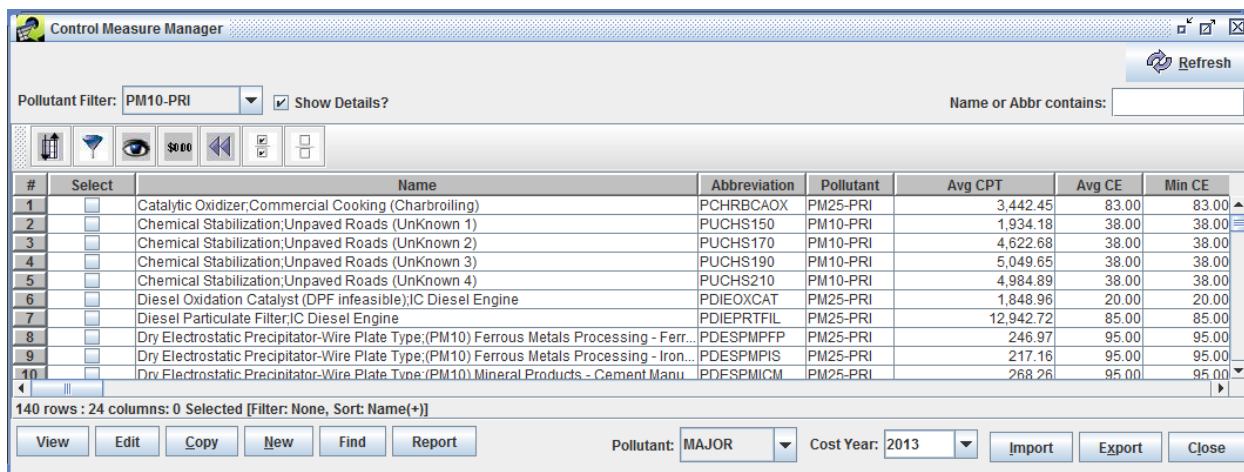

Figure 3.4: Control Measure Manager showing Control Measure Details
Step 1-3: Show Details of Control Measures. To see more information about the measures, check the **Show Details** checkbox - additional columns will appear on the right of the table. An example is shown in Figure 3.4.